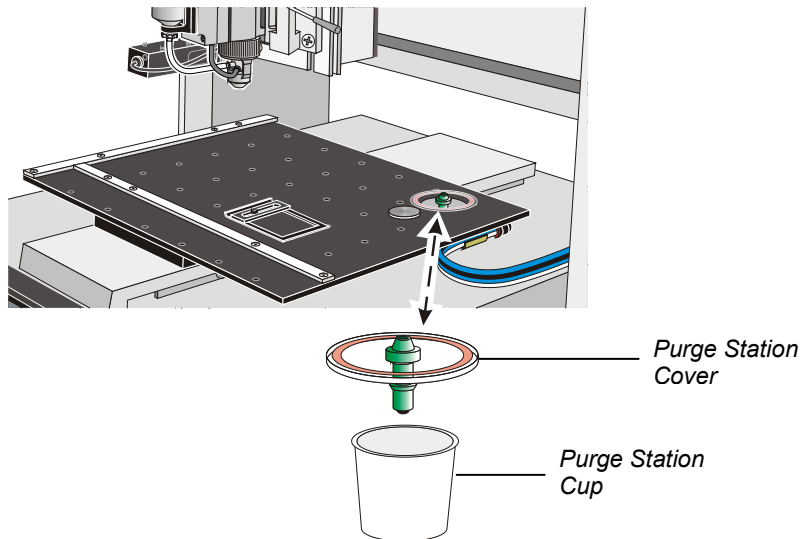

Figure 4-1 Replacing the Purge Station Cup
1. Remove the cover on the purge station (Figure 4-1).